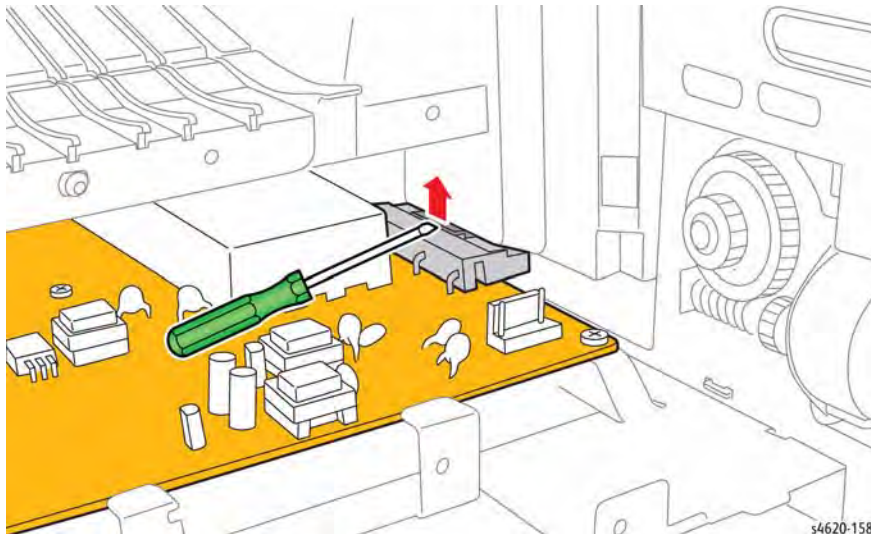

Figure 6 Disconnect the drum bias voltage connector
16. Pull the power supply tray out of the chassis to access CN2 through the SMPS Fan duct, Figure 6.
17. Disconnect CN2 from the HVPS using a small screwdriver to release the connector hook, Figure 6.